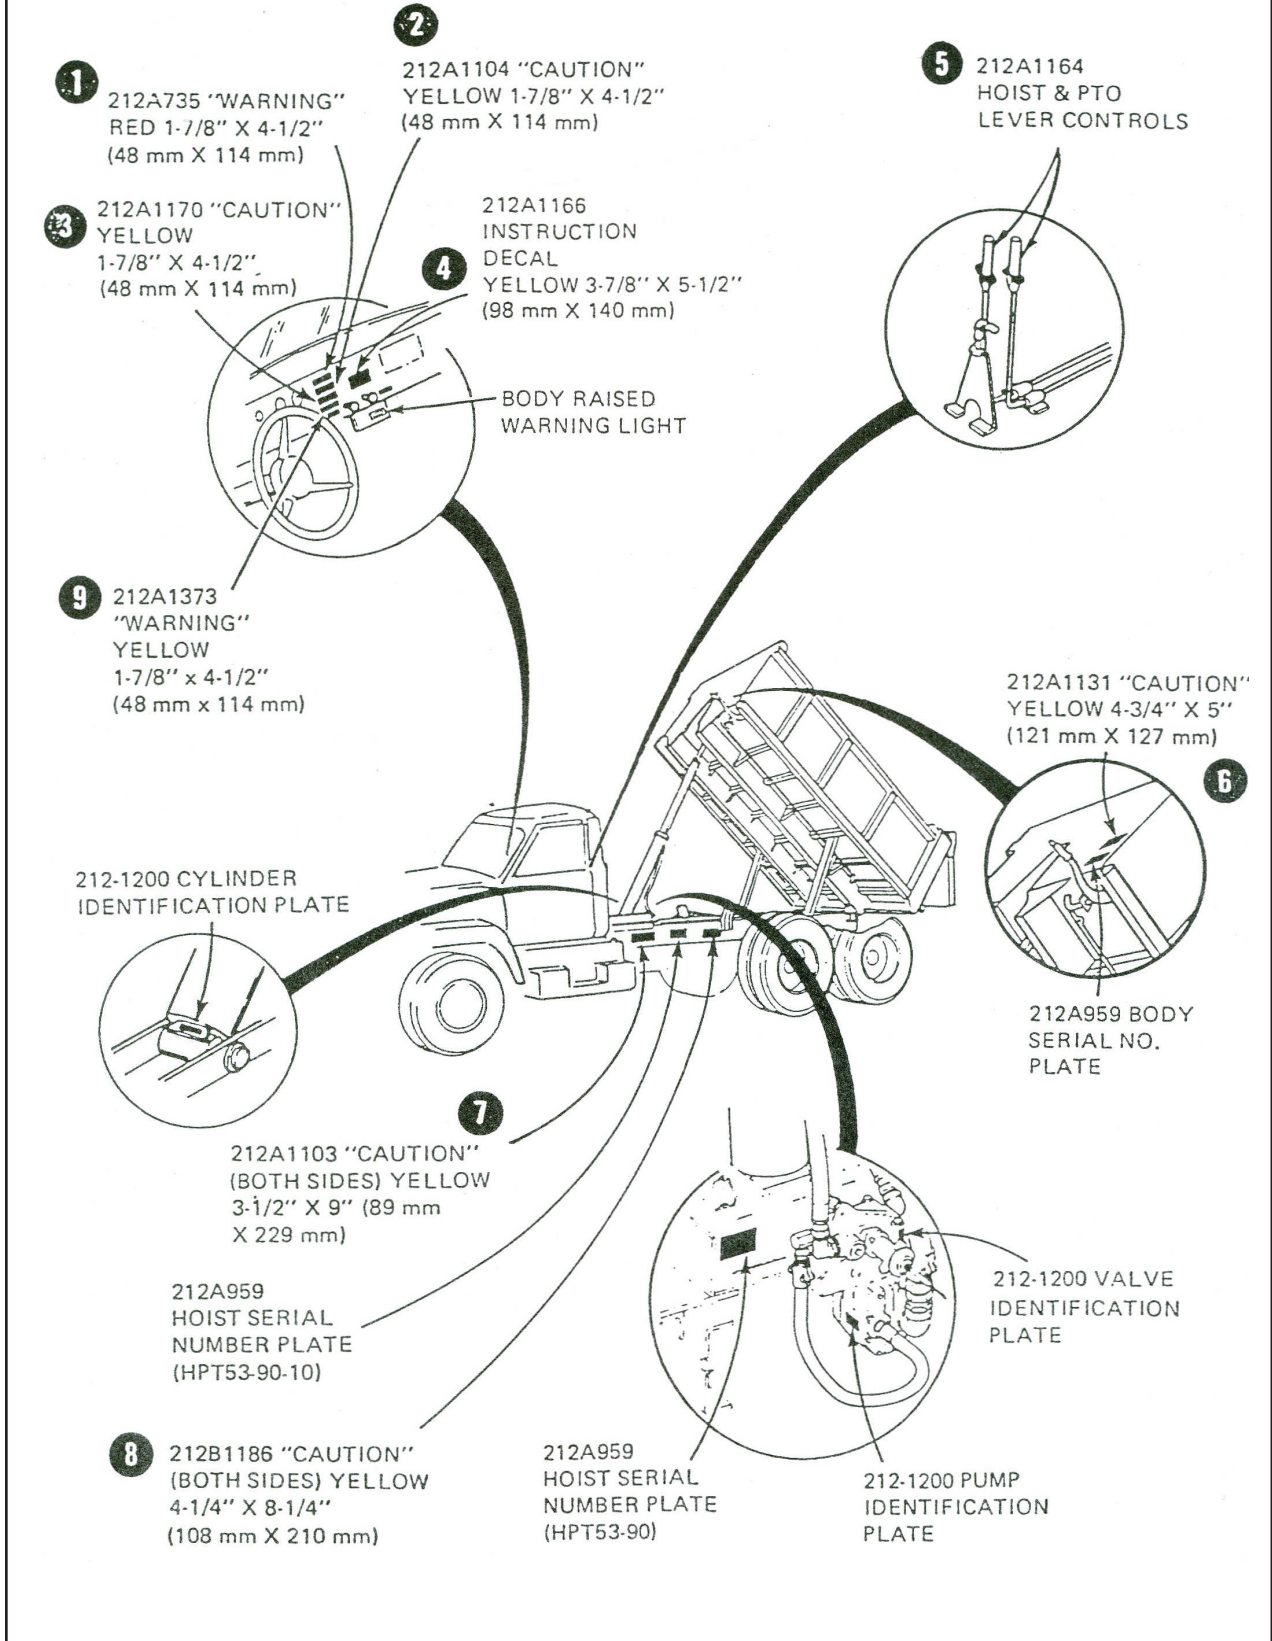

Figure 29. Decals and Serial Number Plates
Install decals according to the instructions below. Refer to figure 29 for decal location. Model and serial numbers are located by manufacture as shown in figure 29.
- 4 INSTRUCTION DECAL #212A1166 is 3-7/8" x 5-1/2" (98 mm x 140 mm). It must be placed on the dash next to the WARNING and CAUTION decals as shown in figure 29.
- 6 CAUTION DECAL #212A1131 is 4-3/4" x 5" (121 mm x 127 mm). It must be placed on the front left hand corner of the body as shown in figure 29.
- 7 CAUTION DECAL #212A1103 is 3-1/2" x 9" (89 mm x 229 mm). It must be placed on the chassis frame (one on each side) as shown in figure 29.